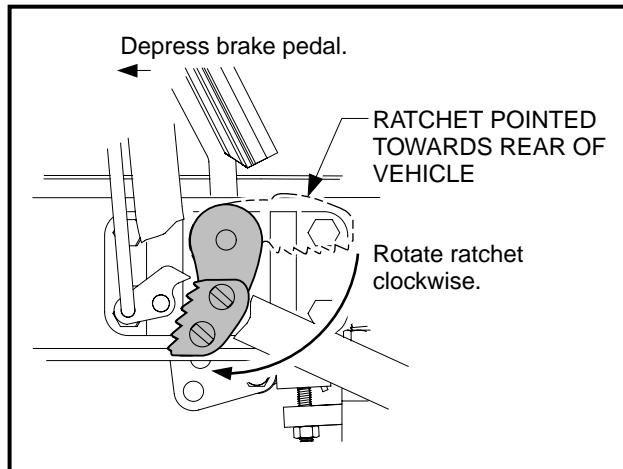

Figure 5-6 Ratchet Installation
8. Depress the brake pedal slightly, and with the park brake ratchet oriented so that the tip of the ratchet is pointed toward the rear of vehicle, slide the ratchet onto the pivot rod (do not slide the ratchet onto the pivot rod splines). Release the brake pedal and allow the ratchet to rotate until its tip is pointed downward (**Figure 5-6, Page 5-7**). The ratchet should now rotate freely on the rod.